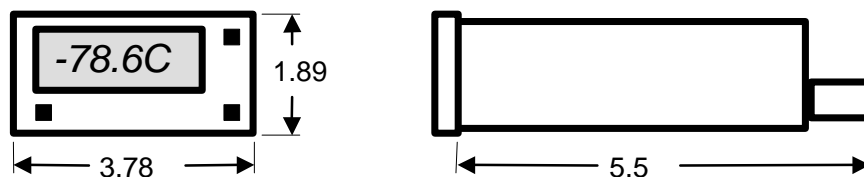

Figure 2. Case Dimensions
**NOTE:** A minimum depth behind the panel of 5.5" is required for the monitor, its connectors and wiring (see Figure 2. Case Dimensions).